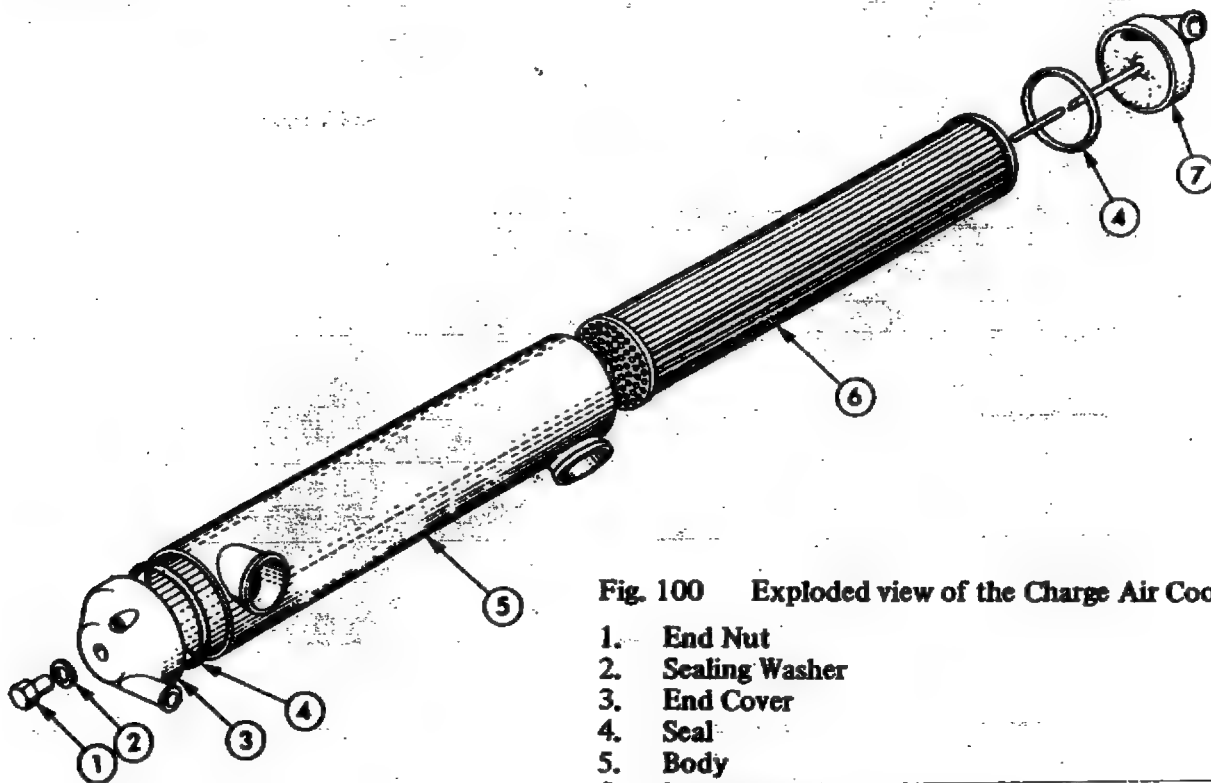

Fig. 100 Exploded view of the Charge Air Cooler
4. Unscrew the end cover retaining nut and remove the end covers, (See Fig. 100).